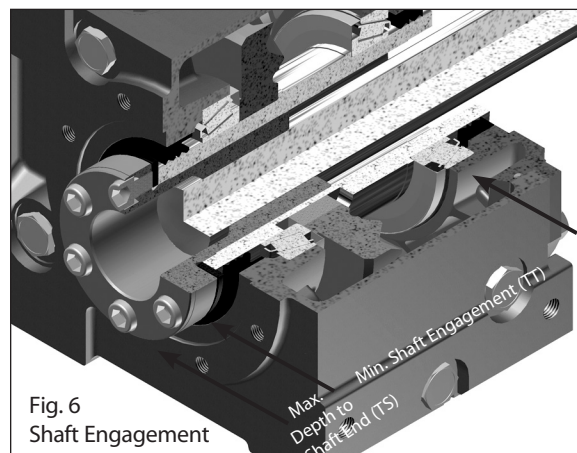
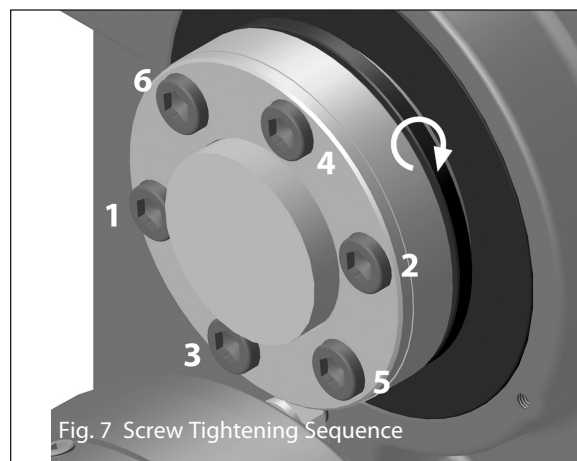

Fig. 6
Fig. 7 Screw Tightening Sequence
Step 8 – Position unit with the bushing flange located on the outboard side of the unit. Align the bushing with the driven shaft. Slide the unit onto the driven shaft as close to the driven shaft support bearing as possible. Ideally, the driven shaft should extend beyond the bushing flange face (see Fig. 7). Refer to Fig. 6 and Table 2 below for minimum shaft to bushing engagement. For maximum depth to the end of the shaft, refer to Fig. 6 and Table 3 below.
Step 9 – With a torque wrench, tighten the cap screws in 20% increments to engage the bushing system. Use the appropriate tightening pattern (“star-pattern” see Fig. 7) to assure complete bushing engagement. Tighten each cap screw to the torque values shown in Table 4.